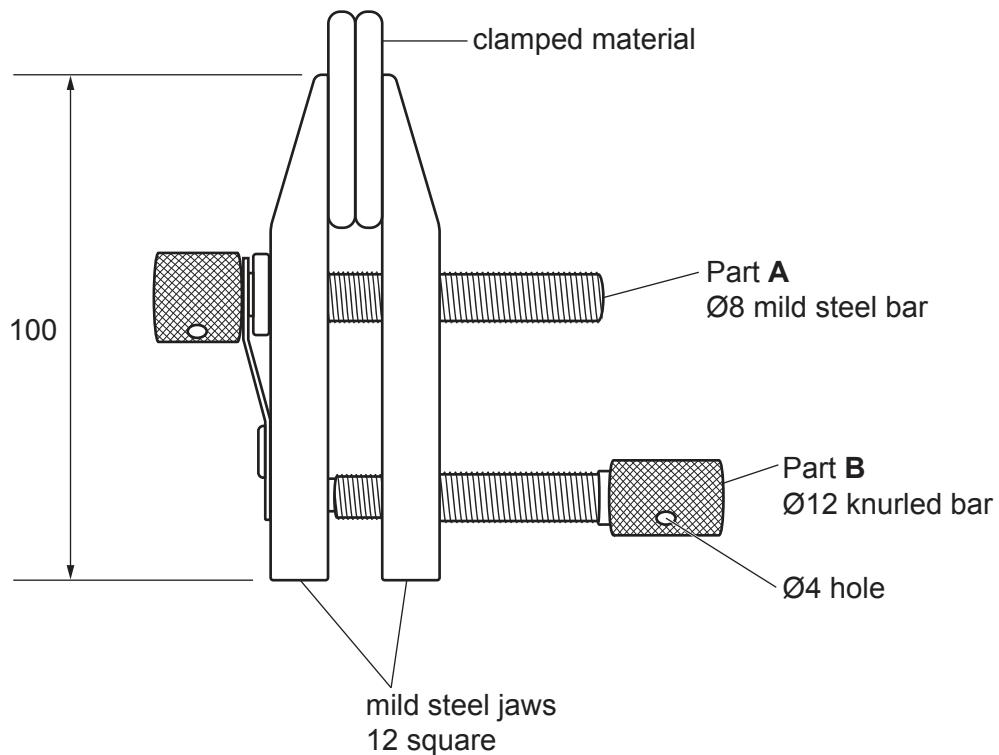

Fig. 3.1
- 3 Fig. 3.1 gives details of a toolmaker's clamp which is to be made in a school workshop.